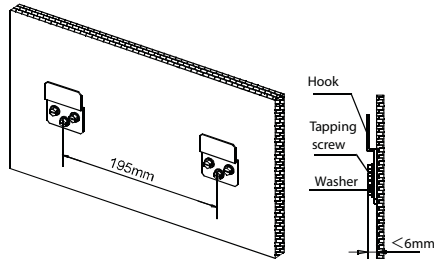

Fig. 6 — Anchor the hooks
1. The mounting hooks should be located horizontally and level on the wall. All minimum clearances shown in Fig. 6 should be maintained.
2. Anchor the hooks at the specified location on the wall using the mounting screws (see Fig. 6). Anchor the hooks on wall studs.